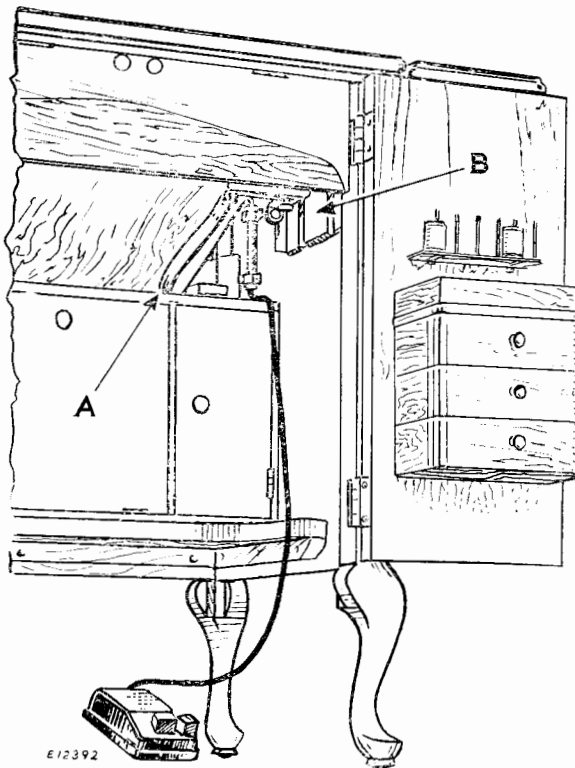

FIG. 4. BAKELITE CONTROLLER ARRANGED FOR
Slide the controller downward out of the holder (B) and place it on the floor in a position convenient for the operator, then turn up the knee lever (A) as shown in Fig. 4.